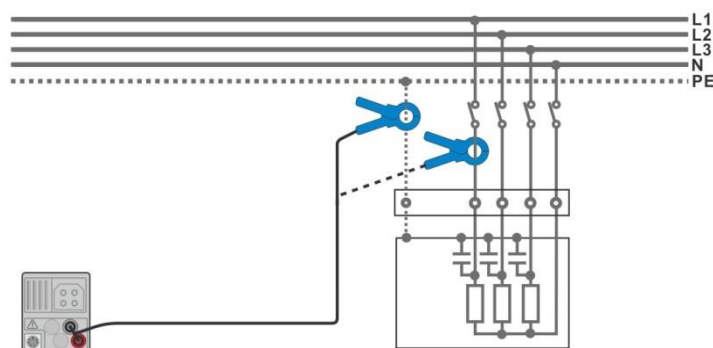

Figure 7.73: Leakage and load current measurements
- › Connect the clamp to the object under test, see **Figure 7.73**.